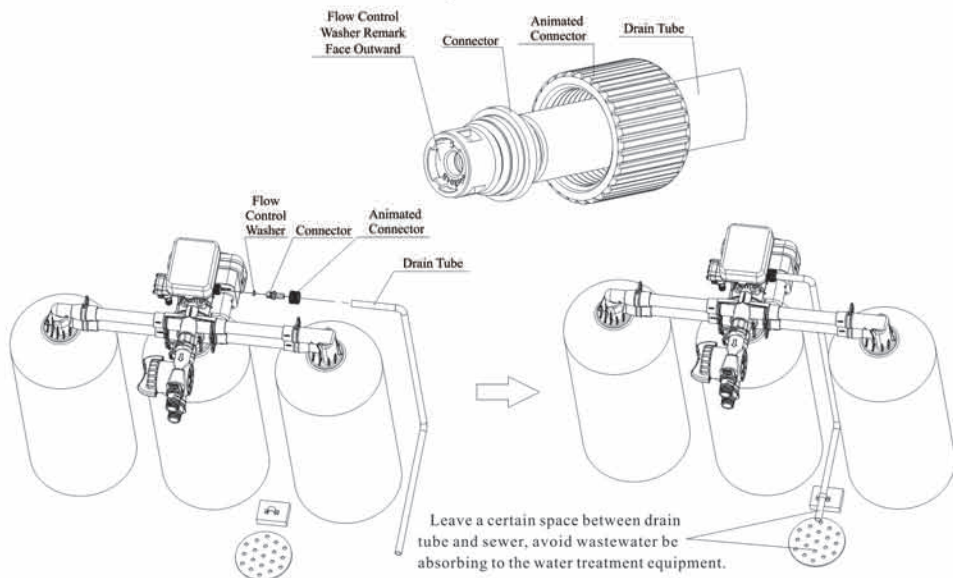

Figure 7
③ Install drain pipeline
- As the Figure 7 shows, put the drain line flow control into connector.
- Locate the drain hose well as the Figure 7 shows.
● Be sure not connect drain with sewer, and leave a certain space between them (Such as showed in the Figure 7.), avoid wastewater be absorbed to the water treatment equipment.